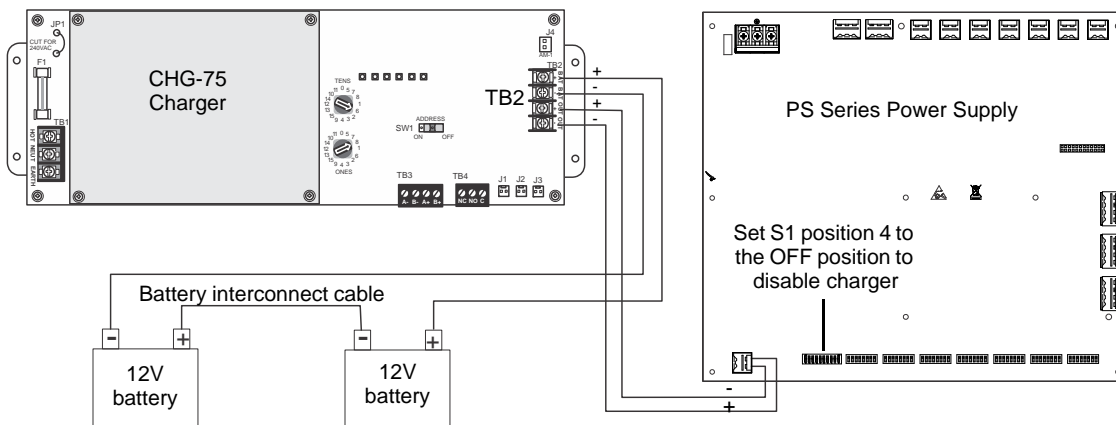

Figure 2.10 Connecting the Power Supply to a CHG-75 Charger
- Connect the battery cables between TB15 (+ and -) on the SK-PS and the CHG-75 charger output circuit (TB2: Out+ and Out-) as shown in Figure 2.10. Be certain to observe polarity.